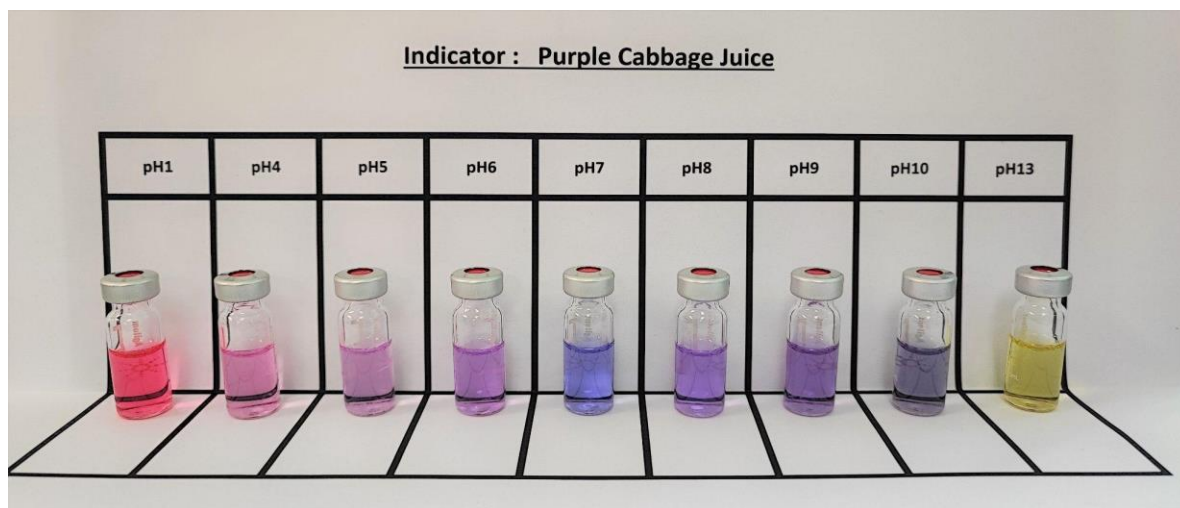

Figure 1. Purple Cabbage Juice
2. Compare the color with the pH scale range in Figure 1, 2 & 3.